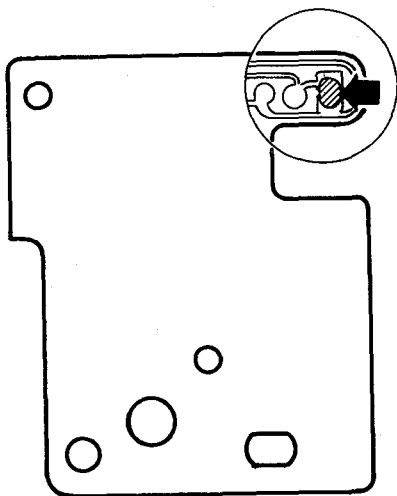

Fig. 5-1
*Note: When connecting or disconnecting the connectors, make sure that the P.C. Board (on the Pick-Up Block) has to be shorted circuit as shown in Fig. 5-1.